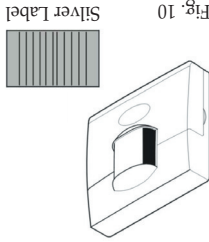

Fig. 10
5. To reduce the detection area, user can put on the silver label which is supplied with this instruction manual to cover the lens. (See Fig.10)